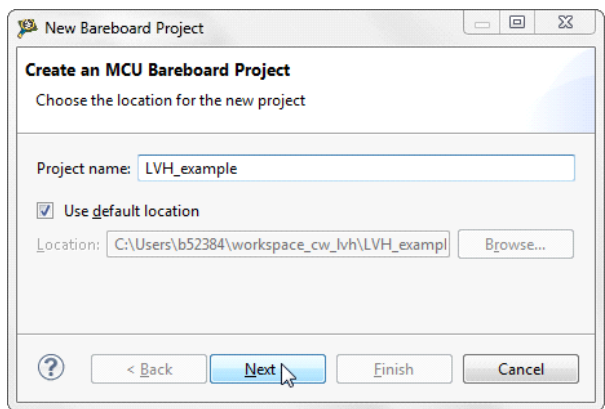

Figure 9. Create an MCU bareboard project
1. Create and name an MCU Bareboard project (see Figure 9).